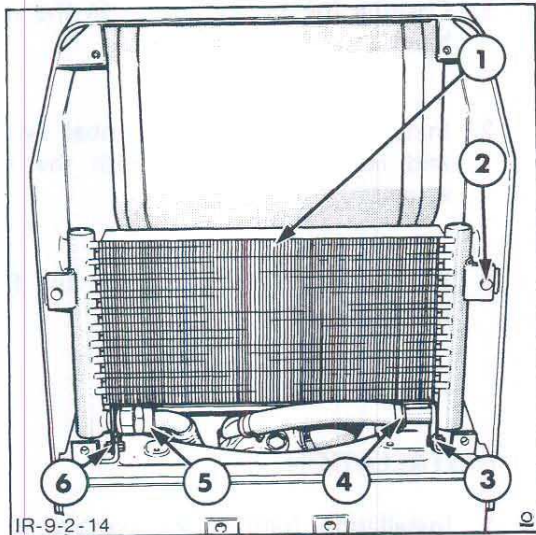

Figure 14
5. Loosen the cooler inlet hose, remove the cooler upper retaining bolts and tilt the cooler forward, Figure 14.